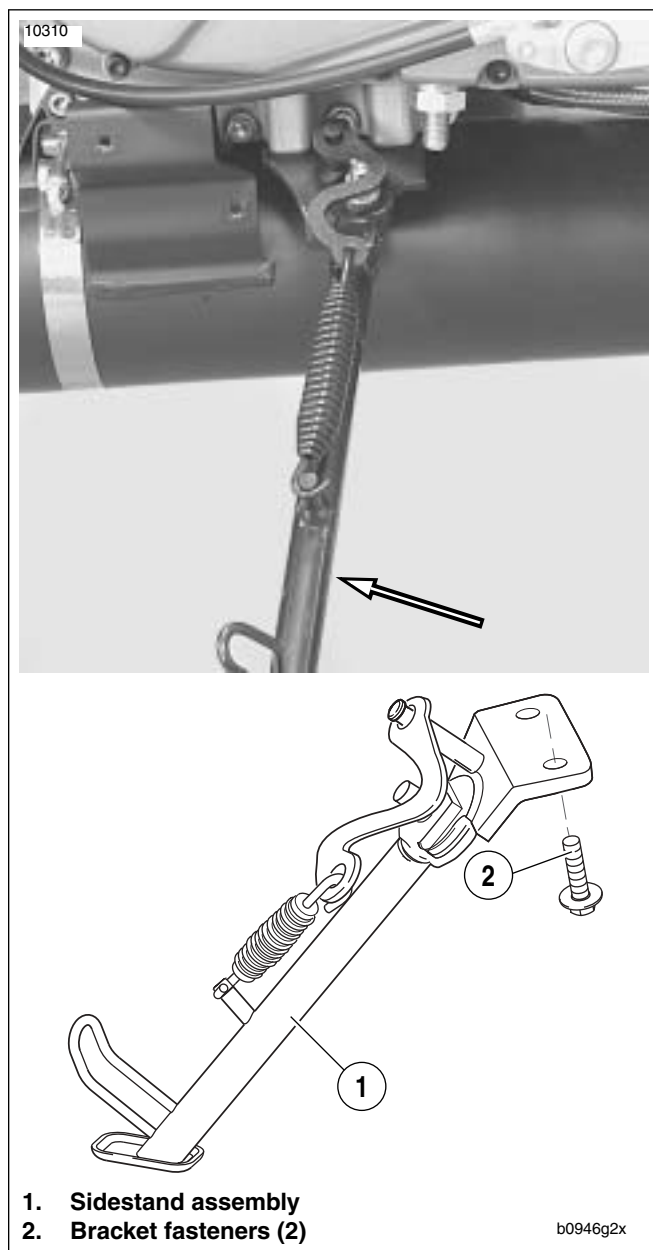

Figure 3. Sidestand Assembly (Extended)
4. See Figure 3. Remove fasteners (2) securing sidestand assembly (1) to engine and remove sidestand assembly.
1. See Figure 3. Loosely install the sidestand assembly (1) to the crankcase with **new** sidestand bracket fasteners (2) provided in recall kit. Extend the sidestand leg (1) and hold forward in the fully extended position while tightening the sidestand bracket fasteners (2) in the following sequence: